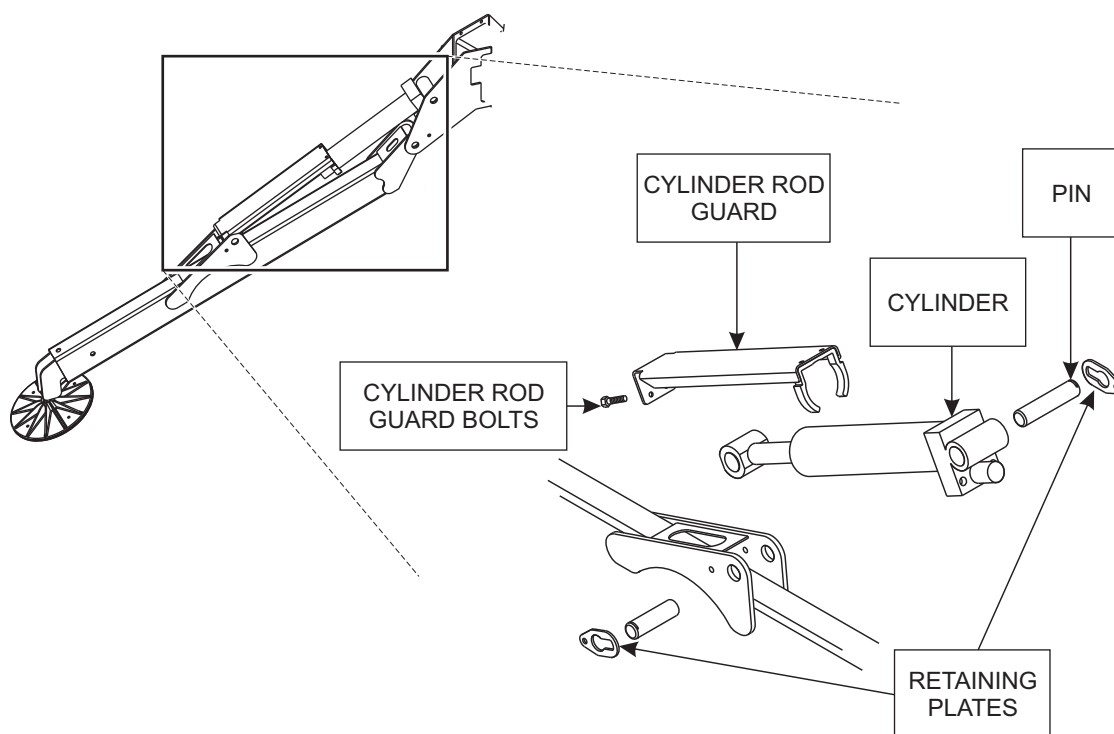

Figure 4-2. Outrigger Cylinder Replacement
- ❑ Remove the bolts securing the outrigger cylinder rod guard (Figure 4-2). Remove the guard.